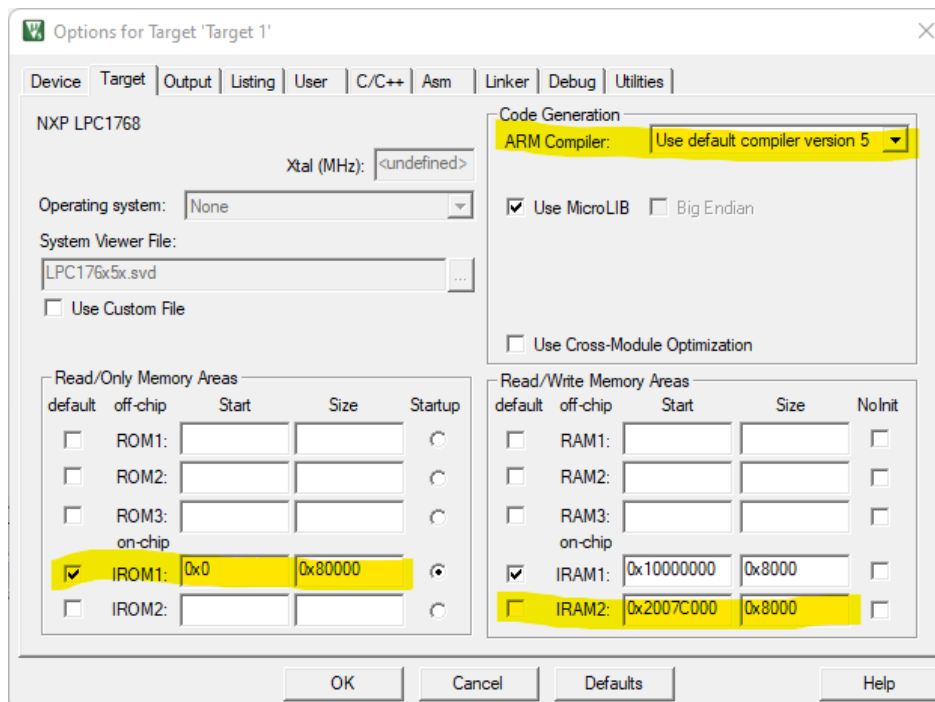

Figure 8
10. Perform the following changes as depicted in Figure 8. Under Target, ARM Compiler> **Use default compiler version 5**. Uncheck **IRAM2**. Make sure that **IROM1** is checked.